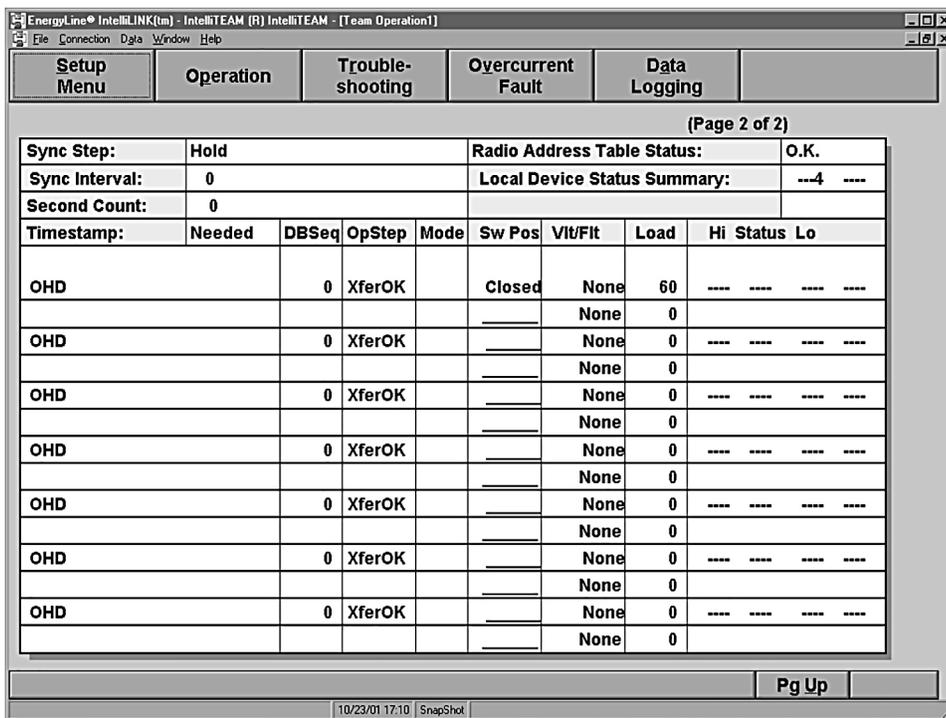

Figure 20. Page 2 of the Team Operation screen.
- (c) Click on the **PgDn** button to view Page 2. See Figure 20 on page 43.